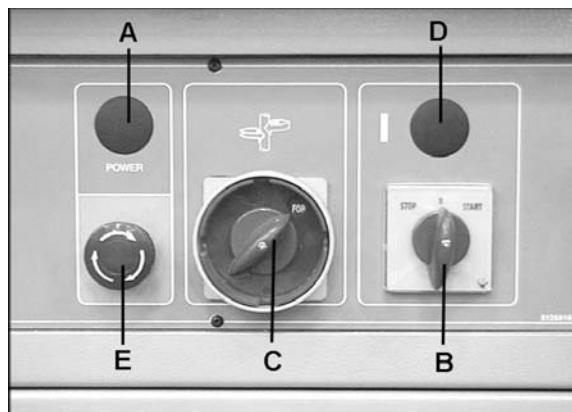

Figure 25
The elements of the control panel are shown in Figure 25:
2. Rotate the forward/reverse switch (C, Figure 25) to the desired setting. Rotate the start switch (B, Figure 25) to the right to start the machine. The start switch is magnetic; as soon as the machine is started, the switch will return to the center position as shown.
3. To stop the machine, push the emergency stop button (E, Figure 25) or turn the start/stop switch (B, Figure 25) to the left.